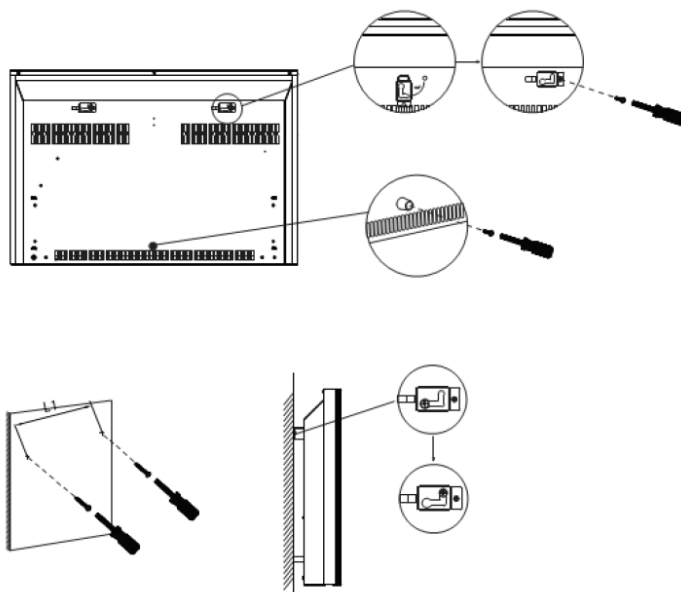

Fig. 4
6. Attach the mounting brackets to the convector body by inserting them into the holes in the back panel, and turn them counterclockwise by 90°, then fasten with screws. Also screw the rubber stop to the bottom center of the convector with a screw (see fig. 4).